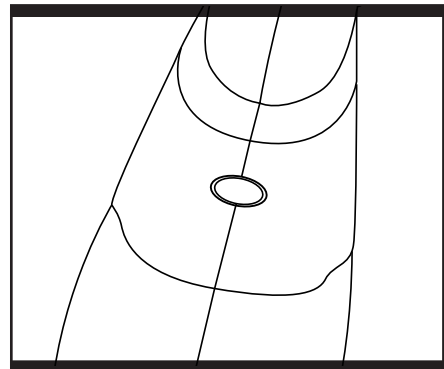

Fig. 10
10. Using the laser and LED light (Fig. 10)